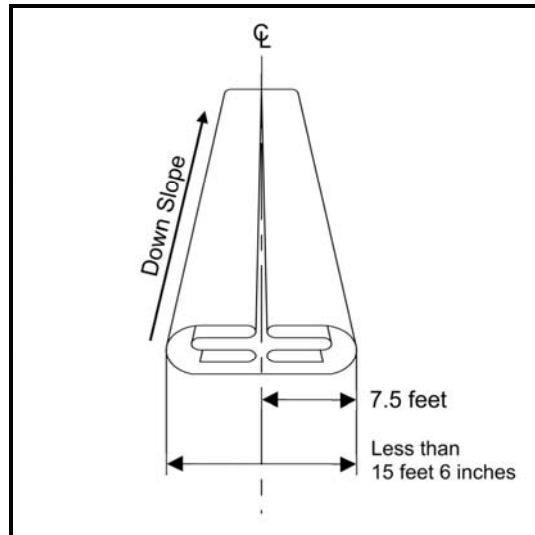

Figure 7. Final folded tank configuration.
6. Figure 7 shows the folded tank.